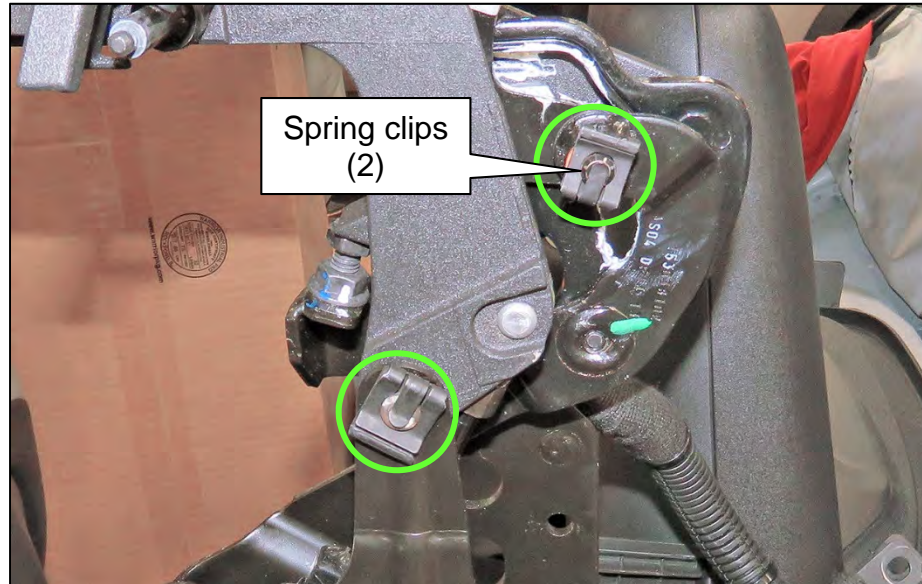

Figure 234
248. Remove two (2) spring clips (Figure 234).